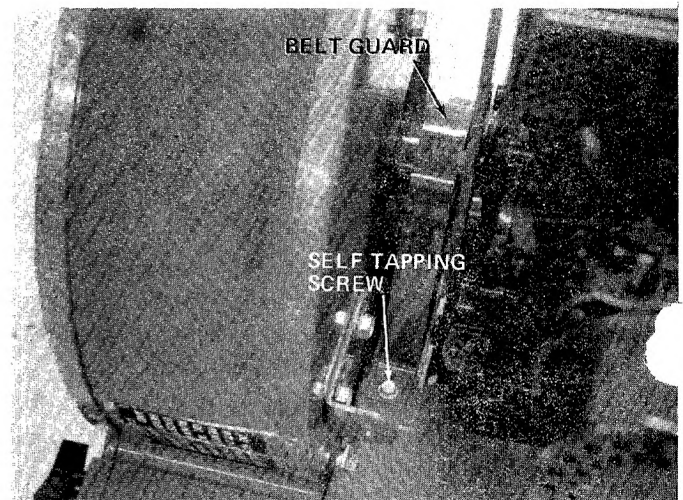

FIGURE 18
4. Remove two self-tapping screws which hold the belt guard. See figure 18. A 3/8" wrench is required. Lift off belt guard.